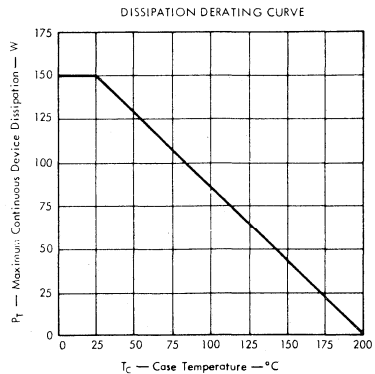

FIGURE 2
4. Derate linearly to 200°C case temperature at the rate of 0.855 W/deg see figure 2.